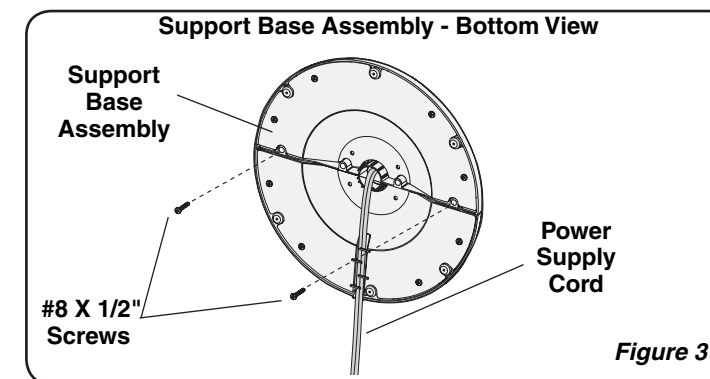

Figure 3
- Secure the (4) **#8 X 1/2 inch Screws** into the four holes in the bottom of the base. (**Figure 3**)